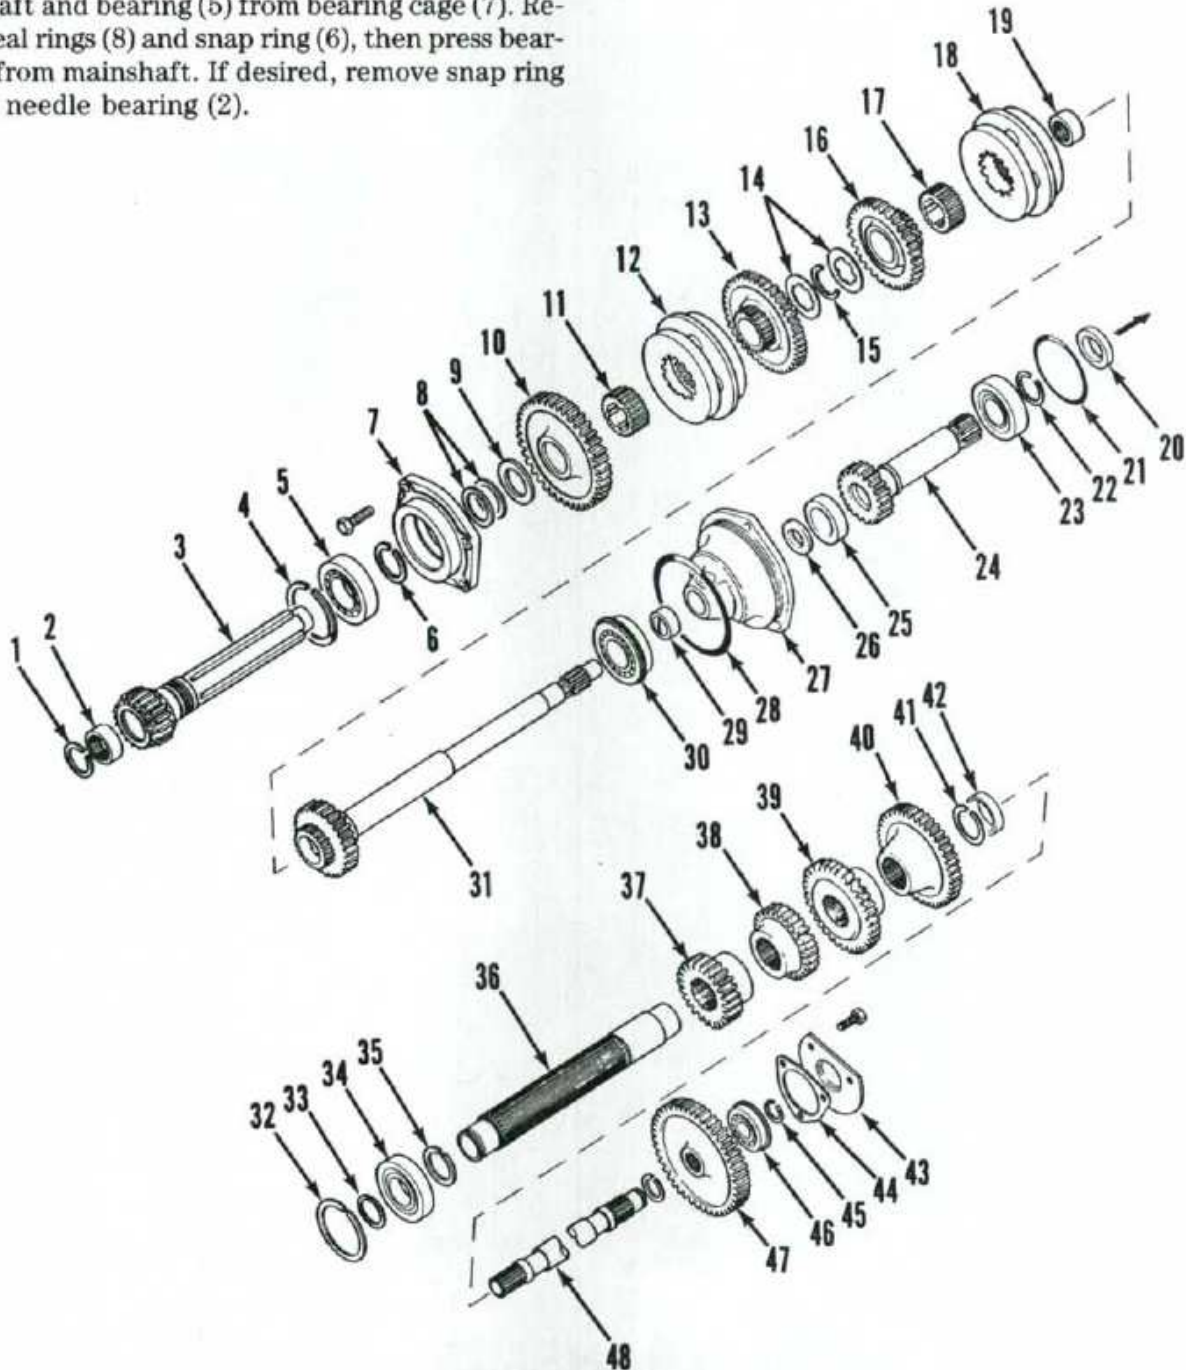

Fig. 115—Exploded view of synchromesh speed transmission gears and shafts.
Before removing the mainshaft (3—Fig. 115), use a dial indicator and check end float between rear thrust washer (14) and second speed gear (13). End float must be 0.004-0.037 inch (0.102-0.94 mm). Then, measure end float between front thrust washer (14) and fourth speed gear (16). End float must be 0.0-0.076 inch (0.0-1.93 mm). If end float is excessive, new thrust washers must be installed during reassembly. Thrust washers are available in one size only.